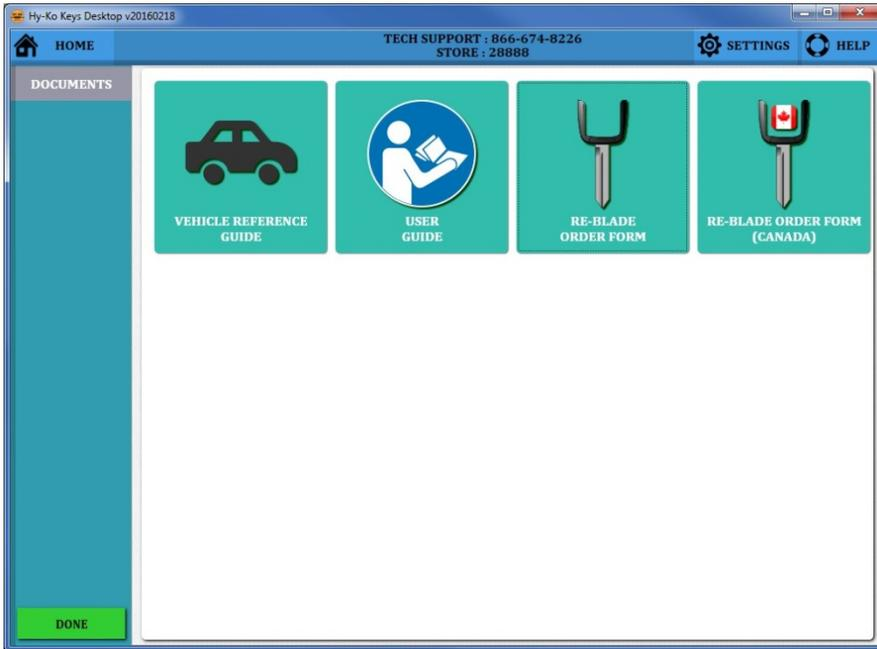

fig. 124
- The **‘DOCUMENTS’** button will open a window showing you all the documents that you can click on and open pdf files of (see fig. 124).